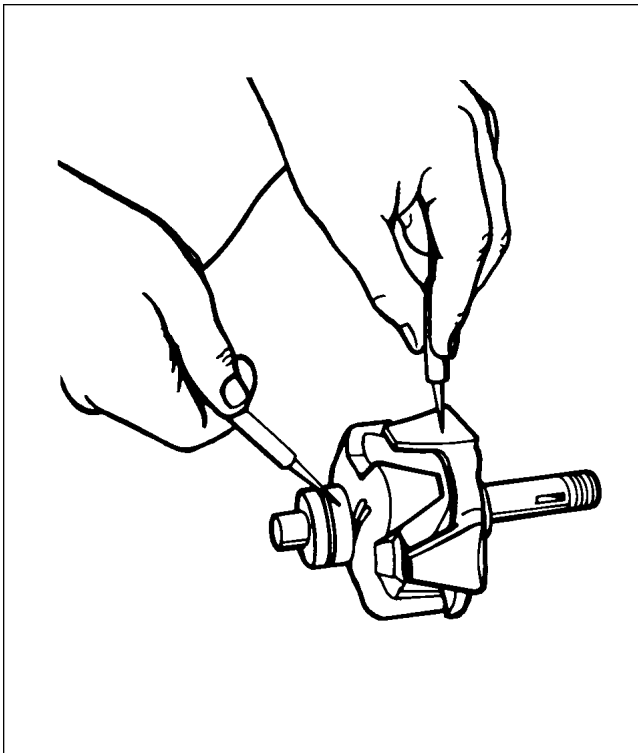
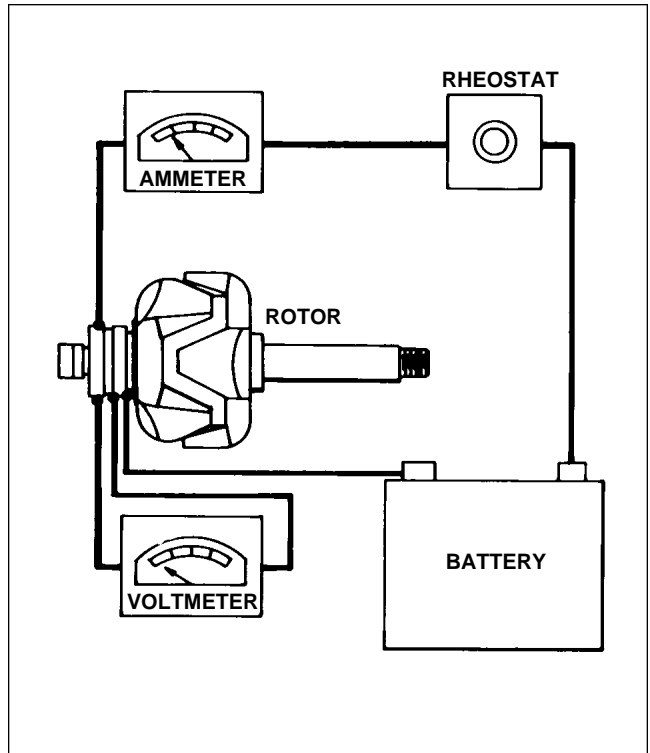

Figure 11-7. Testing Rotor for Ground
Figure 11-8. Testing Rotor for Shorts
a. Rotor: Rotor must be tested for grounded or shorted windings. Ground test is made with test probes, connected in series with a 110-volt test lamp, an ohmmeter, or any type of continuity tester. (Refer to Figure 11-7.) There must not be continuity between slip rings and rotor shaft or poles. To test for shorted turns in rotor winding, connect a voltmeter, ammeter, and rheostat as in Figure 11-8, or use an ohmmeter. Rotor current draw and resistance are listed in Paragraph 11-14 and Table XI-II. Excessive current draw or a low ohmmeter reading indicates shorted windings. No current draw or an infinite ohmmeter reading indicate an open winding.